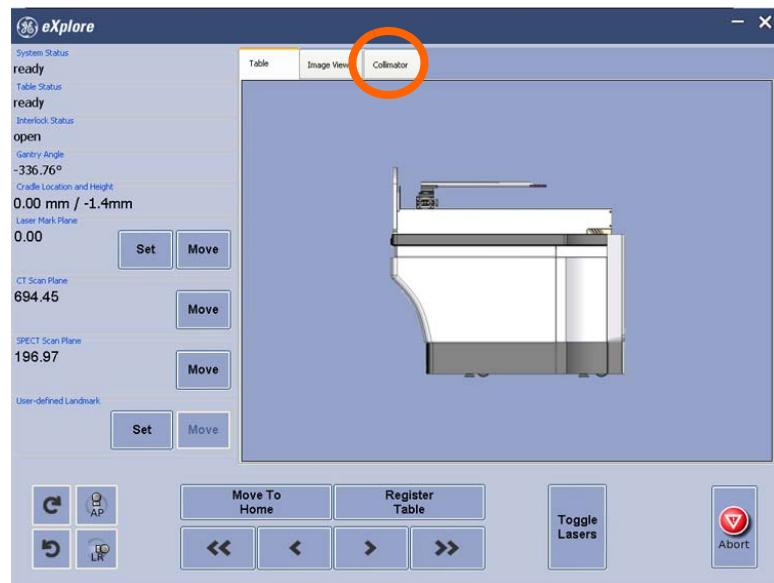

Figure 7-10
1. Touch the Collimator tab (circled in Figure 7-10).